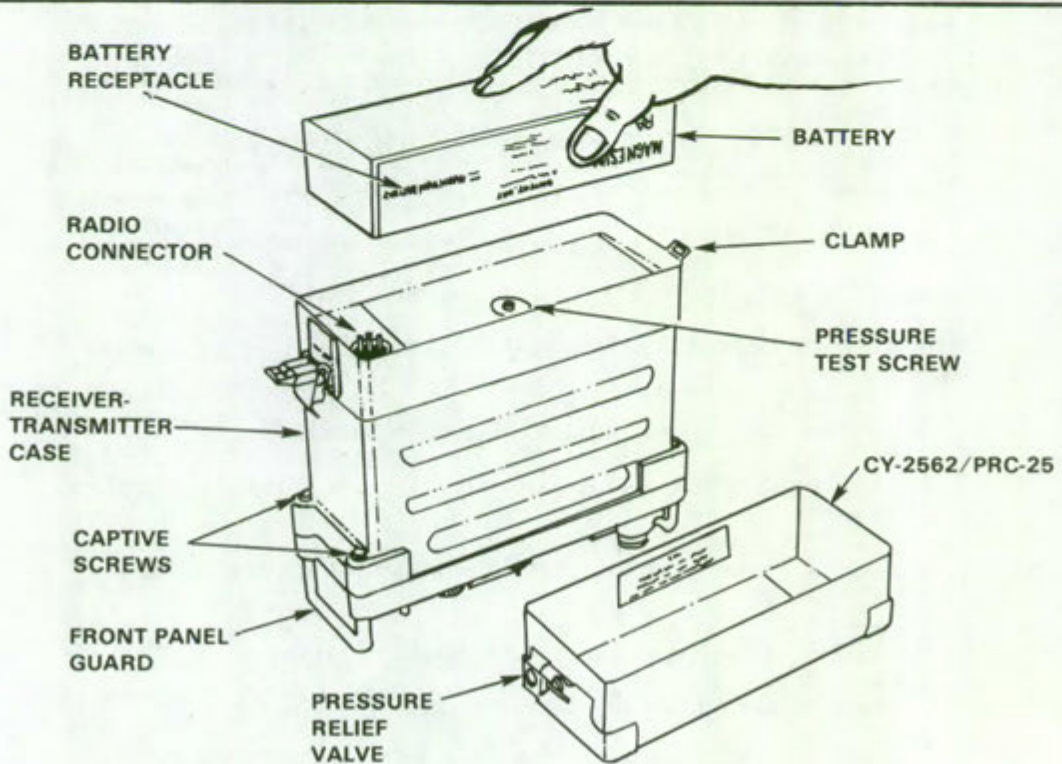

Figure 2. Installing battery in receiver-transmitter.
2. **Installation of battery** (figure 2) (TM 11-5820-667-12, chap 2, page 2-4, para 2-4).
(1) Depress valve and blow from the outside; air should pass through the vent.
(2) Release the valve and blow; air should not flow.
- d. Place battery in battery box as shown in figure 2.